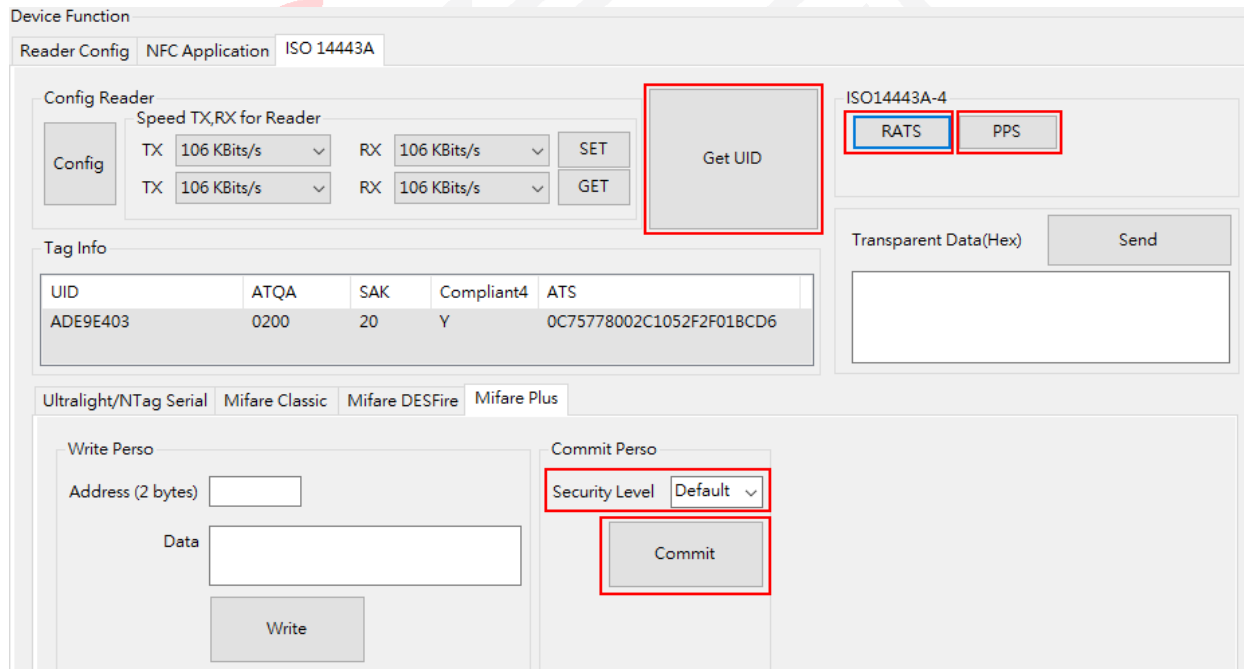

Figure 7.2-1 Commit perso
5. Click “Commit” button to finalize the personalization and switch up to SL1 or SL3, as shown in Figure 7.2-1.